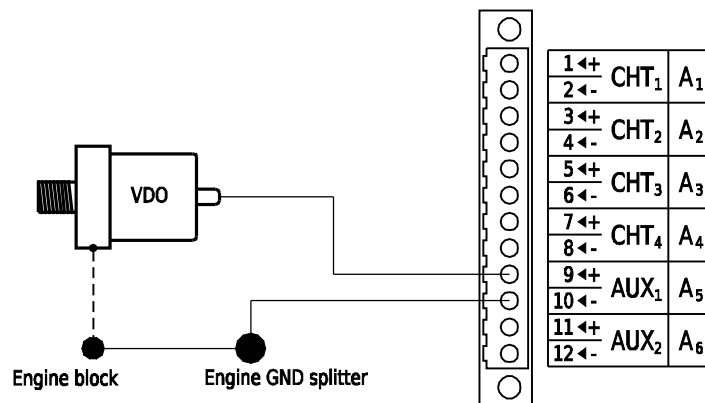
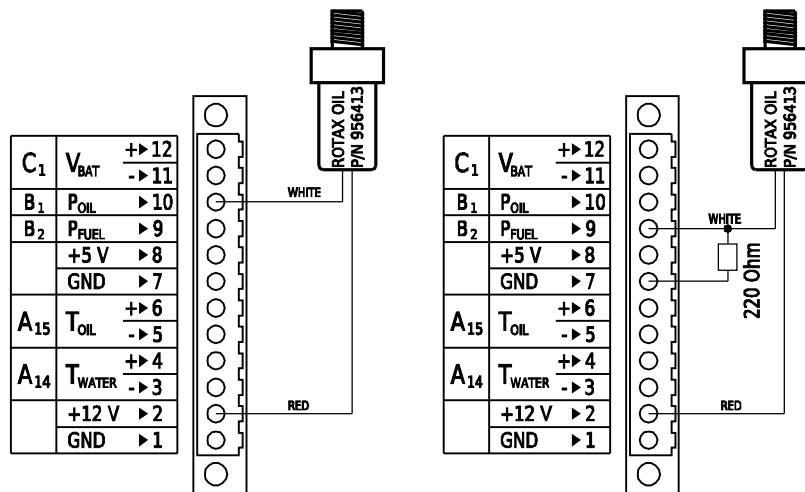

Figure 22: Passive (non-isolated) oil pressure sensor connection schema.
Figure 24: Rotax active oil pressure sensor with current output connection schema. Connection to channel B1 (left), connection to channels B2 – B6 (right).
- Connect passive (non-isolated) oil pressure sensor to correct "+" pin (channels A1 – 12 or A14 – A15 can be used). Ground is provided through the engine block and must be connected to "-" pin of the same A channel. See figure 22 for proper connection schema.
Rotax active oil pressure sensor has two wires (older versions have three). Red wire provides power for the sensor operation and is connected to +12 V pin. White wire provides signal and is connected to channel B1. Black wire, if exists, is not used. See figure 24 (left) for proper connection schema.
Channels B2 – B6 can also be used, but 220 Ω resistor must be connected between B2 – B6 channel and GND pin. See figure 24 (right) for proper connection schema.
Rotax engines usually come equipped with the oil pressure sensor. Models shipped before 2008 have a passive VDO 0 – 10 bar (0 – 150 psi) range sensor, see figure 22 for connection schema. Rotax engines shipped after 2008 have installed Rotax active oil pressure sensor, see figure 24 for connection schema.
Lycoming, Continental and Jabiru engines usually come equipped with 1/8 – 27 NPT thread passive oil pressure sensor. See figure 22 for connection schema.